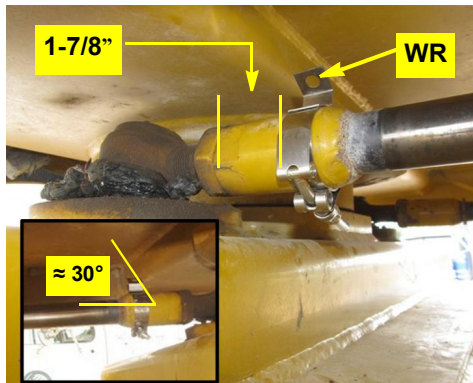

Figure 2c: WAS link rod mounting bracket (clamp) installed
- c. Mount clamp **WR** on the left side steering tie rod end. Mount the clamp (Figure 2c with inset):